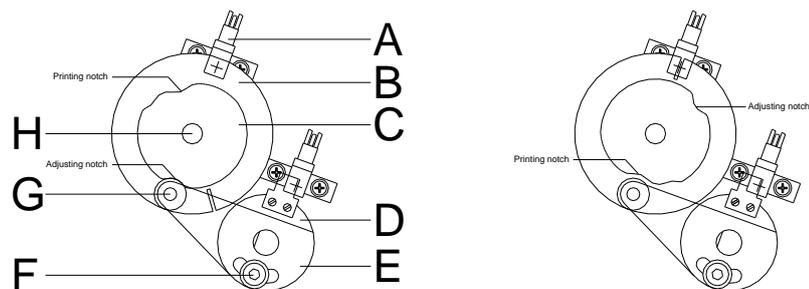

Figure 52
The sketch (see Figure 52) shows from behind the shaft of ribbon save motor (H) with pressure curve (C) and disc (B). The bearing ring (D) with the attached sole plate (E) is underneath.
7. Loosen the hex socket head screw (F) about one turn until the sole plate (E) with the attached ball bearing (G) is freely mobile.
9. Press the sole plate (E) with the ball bearing (G) in the adjusting notch of the pressure curve. Take care of not to have too much play. Fasten the hex socket head screw (F).
13. Turn by hand the motor shaft with the pressure curve and disk from the lift to the right until a slight resistance can be noticed. If the slot in the disk can be moved slightly to the right and to the left out of the photocell (A), then the pressure curve is adjusted correctly.